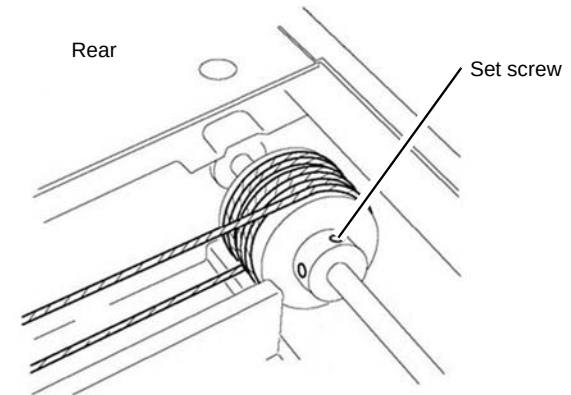

Figure 7 Second rear set screw
10. Tighten the other rear set screw, **Figure 7**.